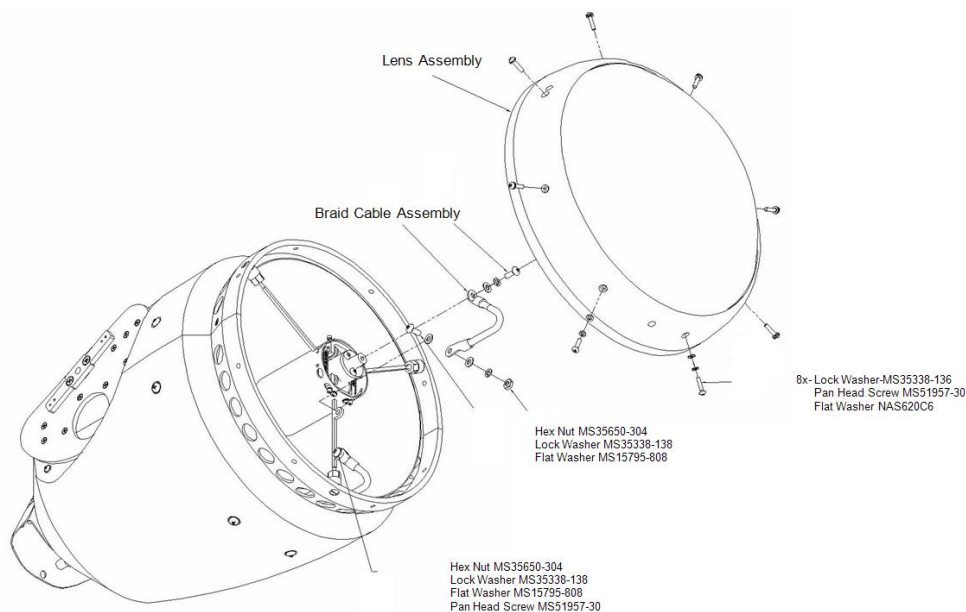

Figure 35 Lens Assembly, Searchlight Housing, and Spider Assembly
- Remove the eight screws that secure the lens assembly to the Searchlight housing (Figure 35).